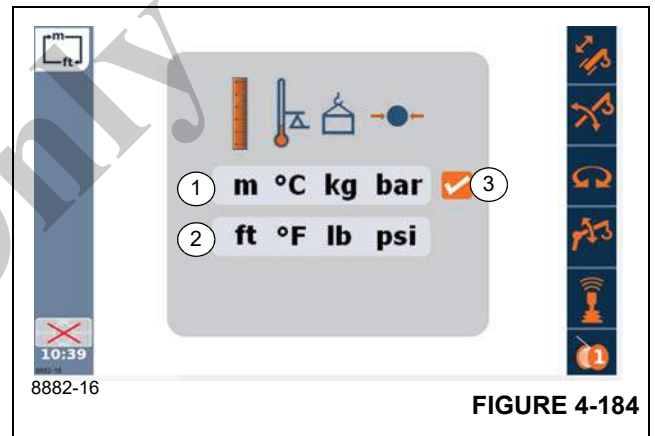

FIGURE 4-184
- Select and confirm the symbol (Figure 4-184):
The symbol (3), (Figure 4-184) shows the respective confirmed selection as shown with a check mark.